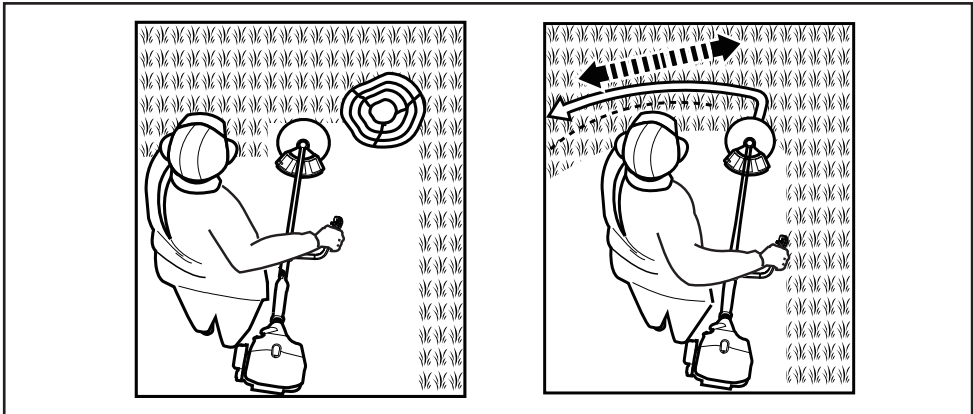

Fig. 14
- Move the machine with slow and regular motion from left to right before moving it back to the starting position and trimming the next area (Fig. 14).
- Pay special attention when performing the work close to trees and bushes (Fig. 14).